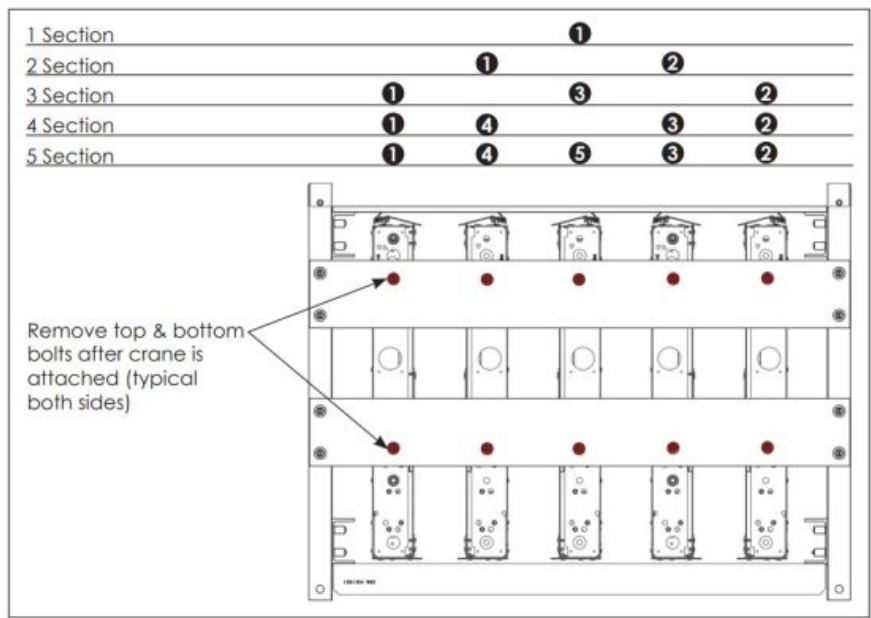
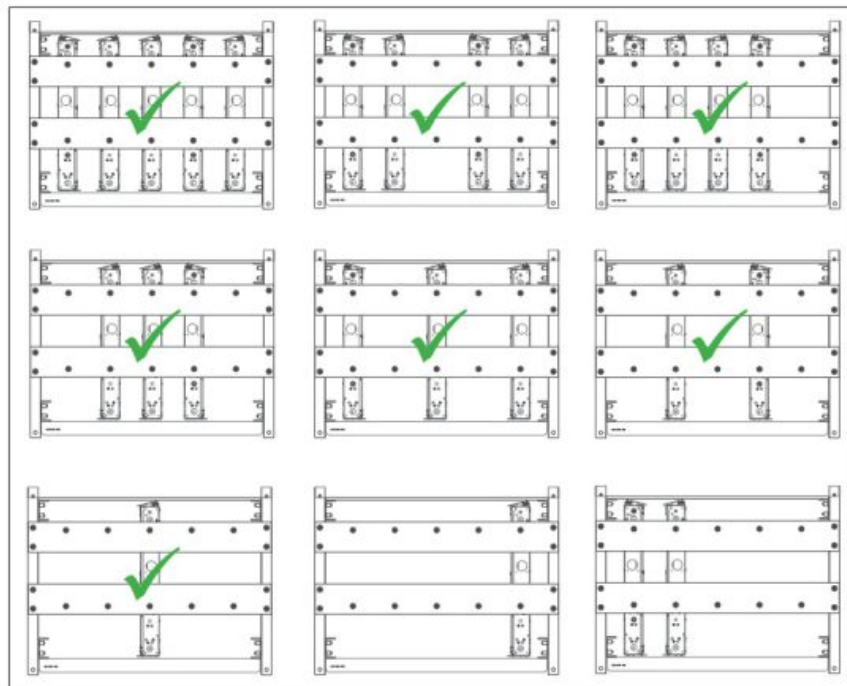

Figure 4: Section Lift Order (Front View)
Figure 5: Stable vs. Unstable Crate Configurations (Side View)
- Use the hex security bit (Daktronics part number TH-1170) supplied in the toolkit to unlatch the beverage shroud. Flip the beverage shroud open and insert lift eyes in the top of the first display section. Refer to the RTN-3020 Series Section Basics Quick Guide (DD5638341). Attach the crane to the lift points. Refer to Figure 4 for the section lift order and to Figure 5 for proper configurations.
Figure 5 shows stable and unstable configurations.